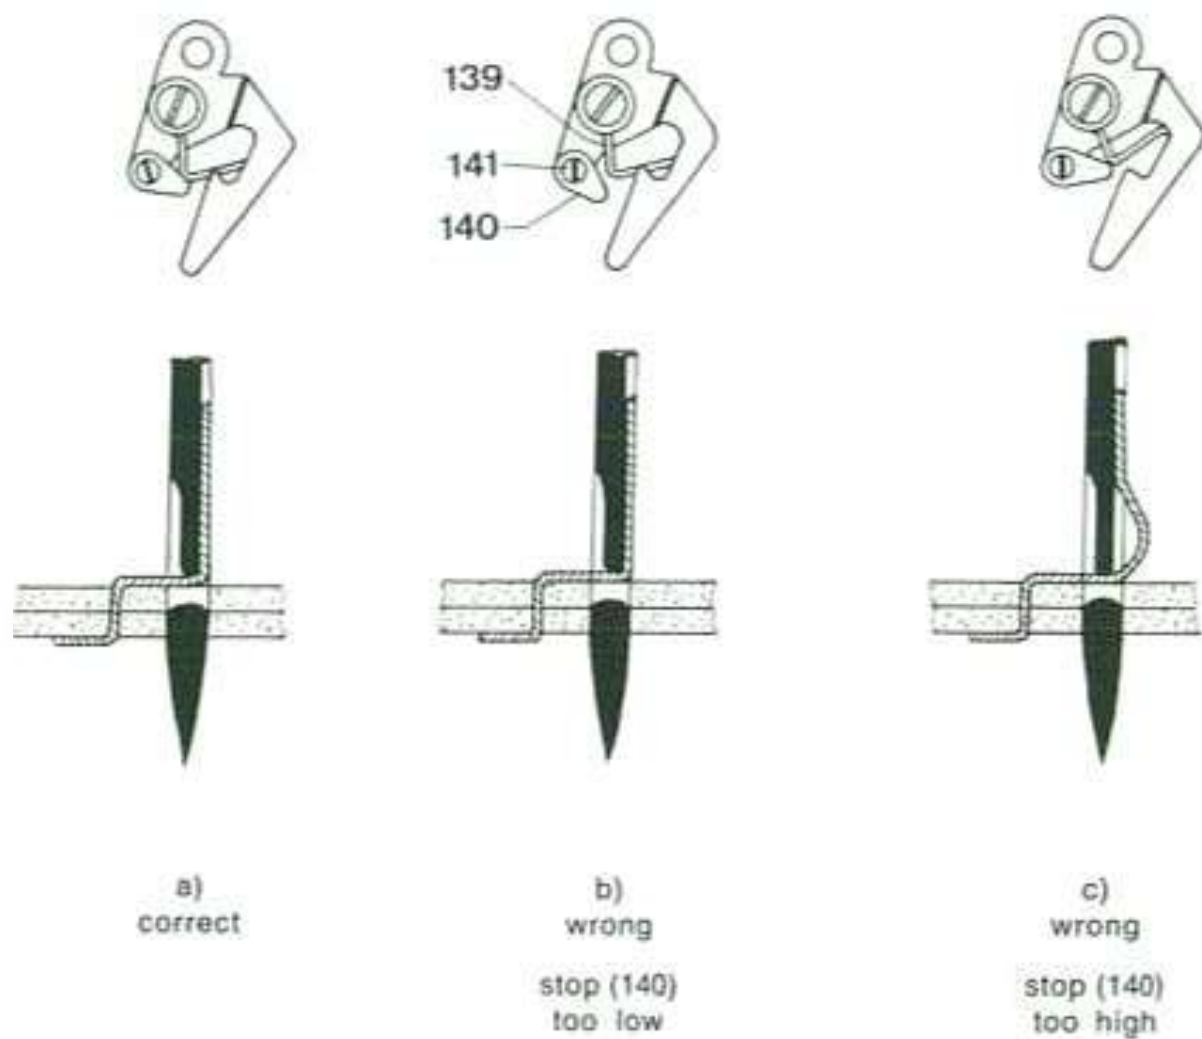

Fig. 46
The stop (140) can be set to the correct position by turning screw (141) (Fig. 46).